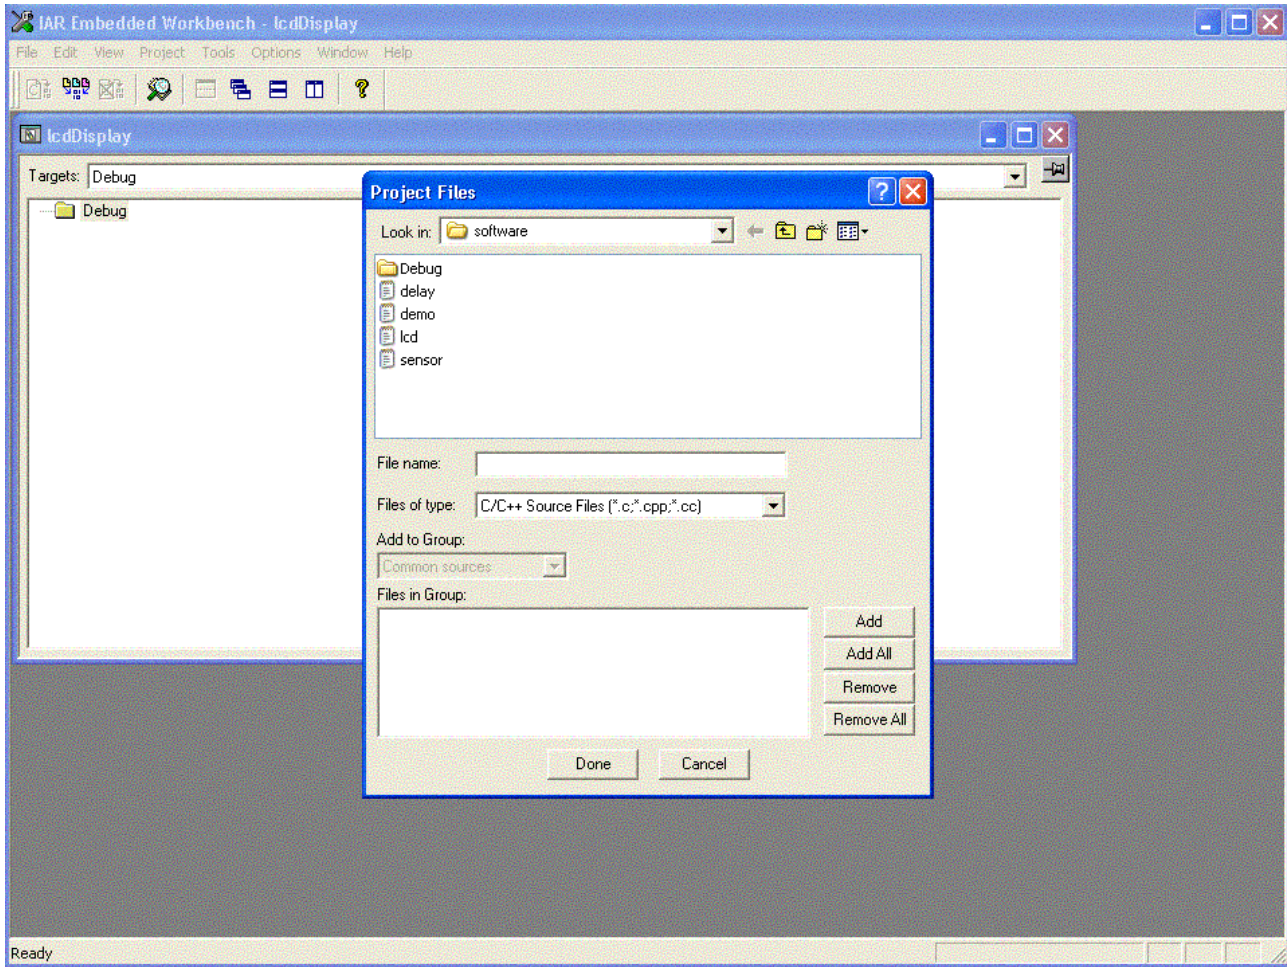

Figure 12: Showing procedure in building software, Step 6.
Step 6: Now click on **Files** and you will see the screen shown in Figure 12. You should be at **C: \msp work \software** to see this screen, with **software** sitting in the **Look in:** slot.